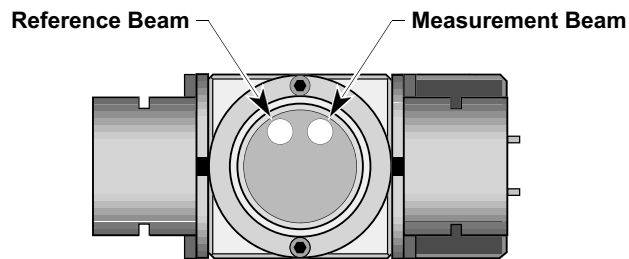

Figure 7G-9. Differential interferometer as viewed from plane mirrors
- 7 Place the alignment aid over the output aperture (plane mirror converter) of the Differential Interferometer such that the beam going to the measurement mirror (which becomes the measurement beam) passes through the alignment target. (See Figure 7G-10.)